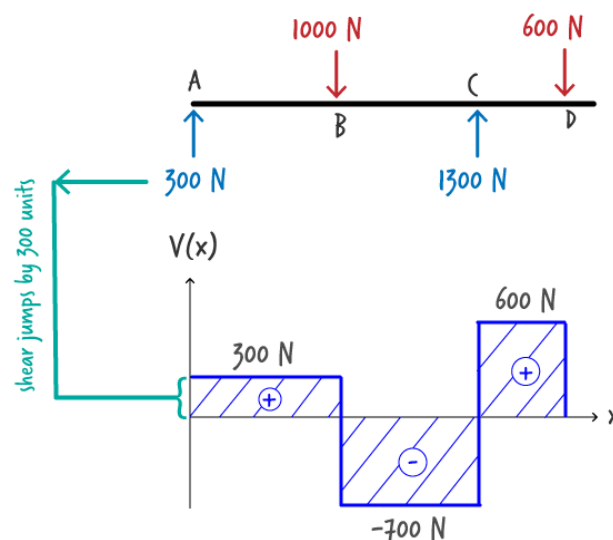

Figure 9: Jump in shear due to an upward force
There is an upward force of 300 Newtons at A. This corresponds to a jump in shear value, as the shear jumps from zero to 300 Newtons (see Figure 9). So, we can say that an upward external force on the beam causes an increase in shear value. The amount of increase is equal to the magnitude of the upward force.
The left beam segment (AB) is not subjected to any loads within it. That is, there is no load on the beam from A+ to B-. Therefore, no change in shear takes place. As you can see in Figure 9, shear in this segment of the beam has remained unchanged. The value of shear from A+ all the way to B- is 300 Newtons.